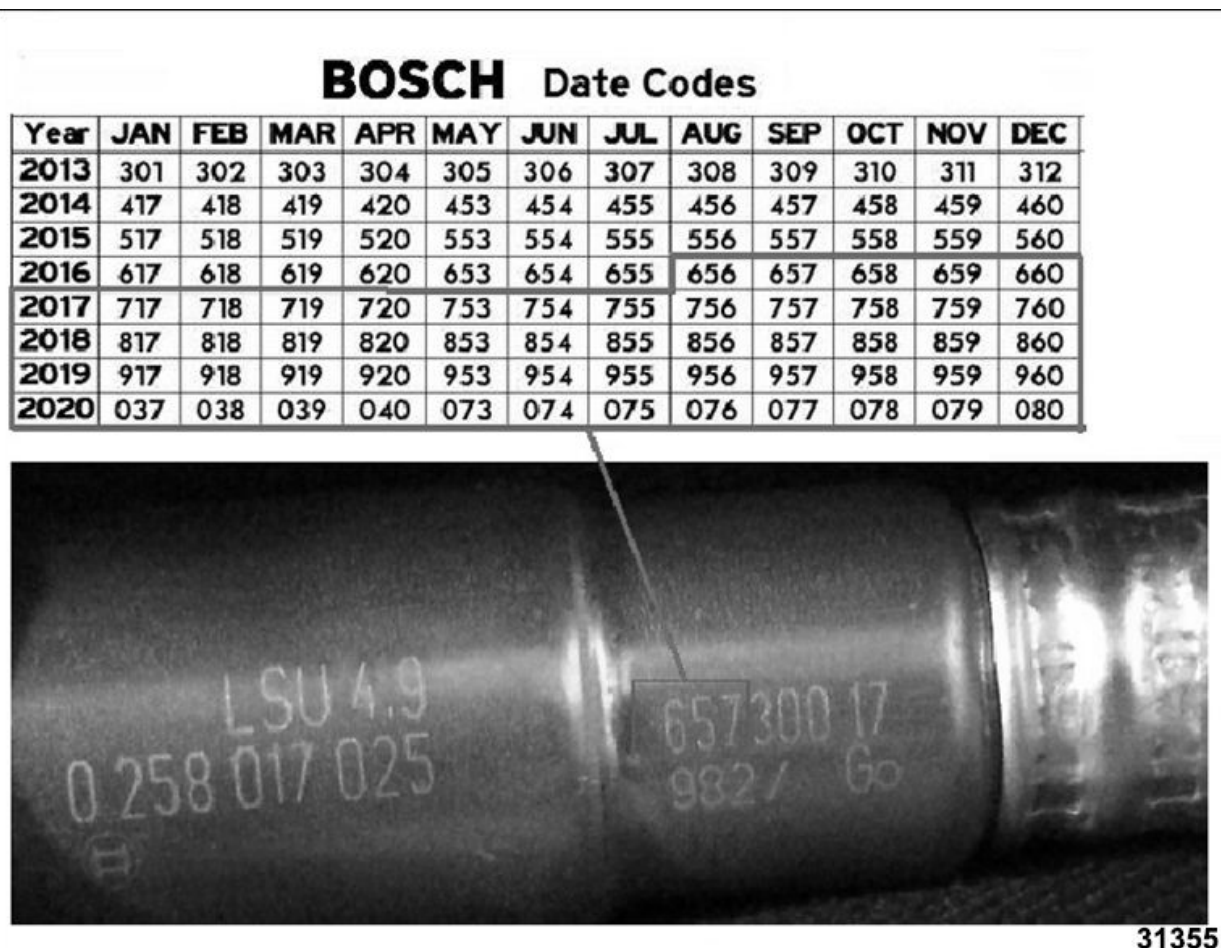

Fig. 117
- Date code is indicated on sensor by first 3 numbers in the location shown by the red box as shown in Fig. 117.